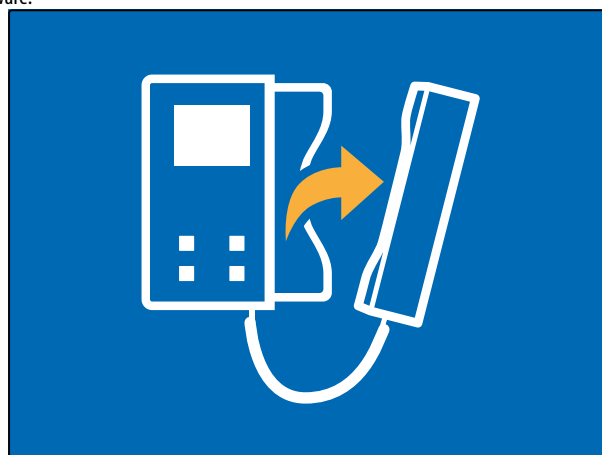

Fig. 48 Pick up the handset warning
- If you have not picked up the handset the videophone gives a warning to do it (Fig. 48).